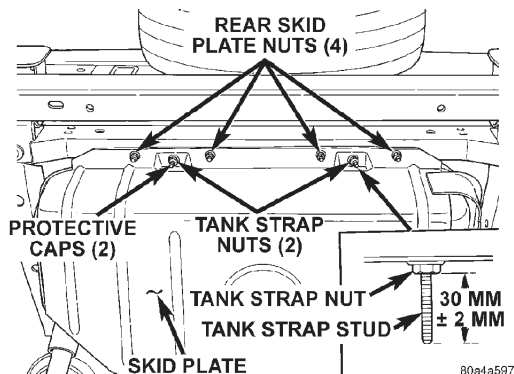

Fig. 36 Fuel Tank Mounting Nuts—Rear
- (12) Remove four skid plate-to-body nuts at rear of tank (Fig. 36). **Do not loosen tank strap nuts (Fig. 36).**
(17) To separate tank from skid plate, remove two protective caps at tank strap studs (Fig. 36) and remove tank strap nuts.
(18) Remove both straps and remove tank from skid plate.
(1) Place fuel tank into skid plate. Wrap straps around tank with strap studs inserted through holes in skid plate. Tighten strap nuts to attain 30 mm (2 mm) between bottom of nut to end of strap stud (Fig. 36). **Do not over tighten nuts.**
(2) Install two protective caps to tank strap studs.
(3) Connect fuel filler hoses at tank. Tighten hose clamps.
(4) Raise skid plate/fuel tank assembly into position on body while guiding filler hoses.
(5) Install 7 skid plate mounting nuts. Tighten to 16 N·m (141 in. lbs.) torque.
(6) Remove tank jacking device.
(7) Connect electrical connector at front of fuel tank.